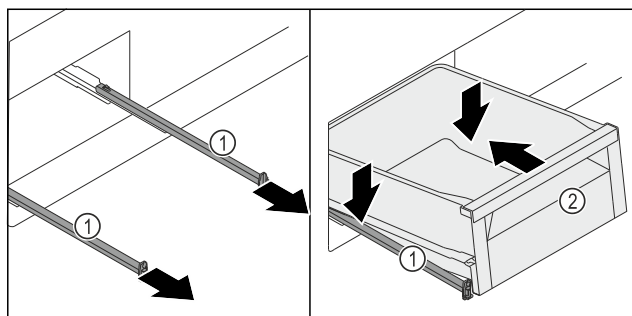

Fig. 126
- ▶ Pull out the rails Fig. 126 (1).
- ▶ Hold the rails Fig. 126 (1) firmly and place the drawer Fig. 126 (2) diagonally on the rails Fig. 126 (1) from above.
- ▶ Slide the drawer Fig. 126 (2) backwards on the rails Fig. 126 (1) as far as it will go.